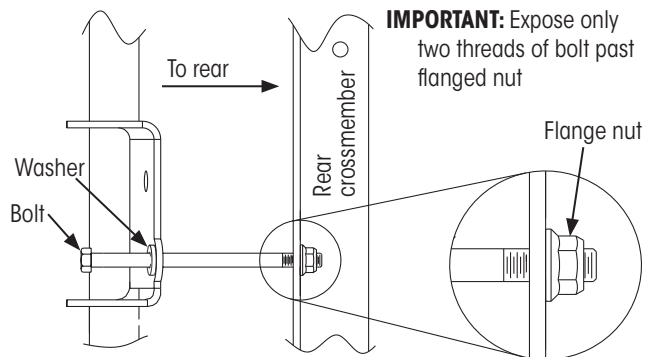

Figure 2: Installing bolt with two threads showing (top view)
NOTE: Step 1 only applies if replacing cable restraint with bolt shown in Figure 2.
3. **Insert** bolt with hardened flat washer through bolt hole in actuator bracket and through bolt hole in rear crossmember (Figure 2).
4. **Thread** flanged nut onto bolt and tighten until two threads are visible past the nut (Figure 2).